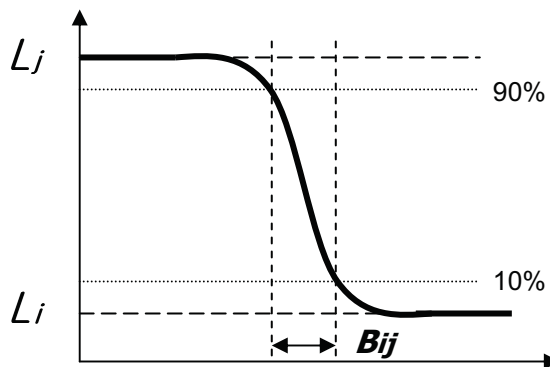

FIG. 3 MPRT
- MPRT is defined as the 10% to 90% blur-edge width  $B_{ij}$ (pixels) and scroll speed  $U$ (pixels/frame)at the moving picture. For more information, see FIG 3.